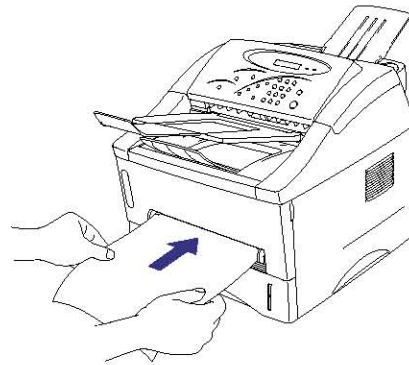

Fig. 2-22
- (3) Insert the paper into the manual feed slot with both hands until the front edge of the paper touches the paper feed roller.
- (4) Hold the paper in this position until the printer feeds the paper in automatically a short distance and then let go of the paper. (Fig. 2-22)